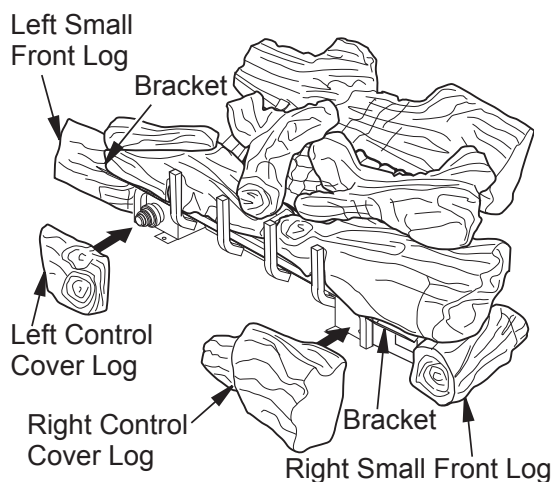

Figure 26 - Installing LBG36SM Model Control Cover Logs
7. For LTF36SM, the front right and left logs are longer and are supported with brackets on each end (see **Figure 26**). Place left and right small front logs under left bracket and beside right bracket.